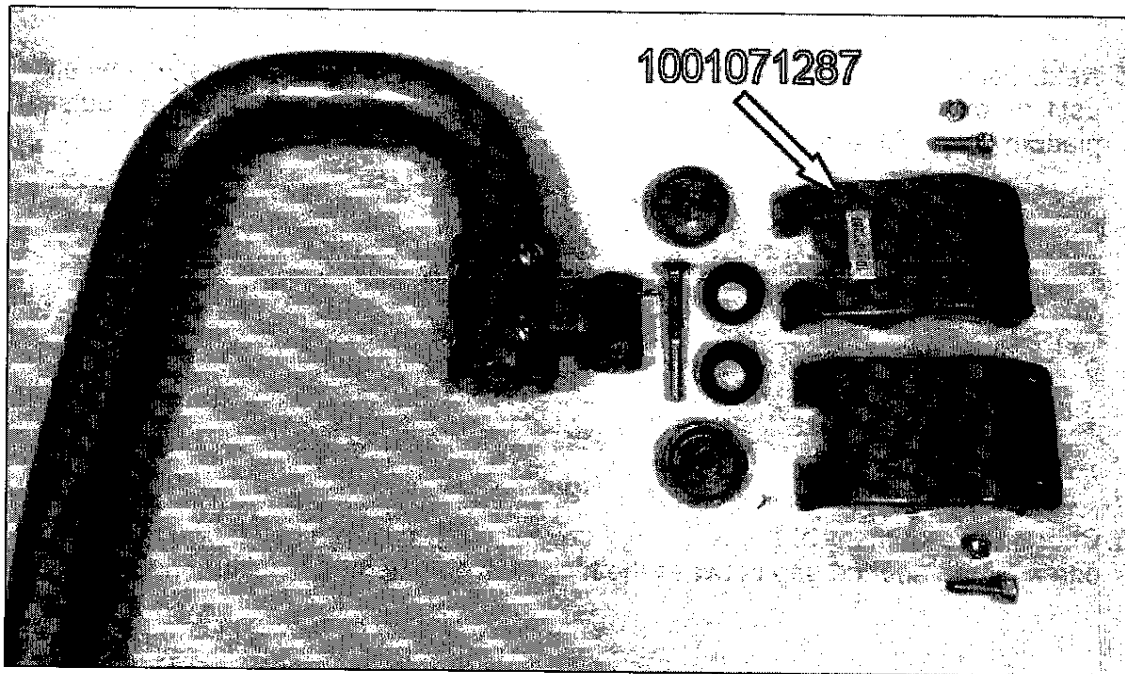

Figure 2
11. From the parts kit, locate the right side gate tube, one set of hinge covers, and associated hardware shown in Figure 2. Ensure one of the hinge covers for the top gate hinge is labeled with the part number #1001071287.